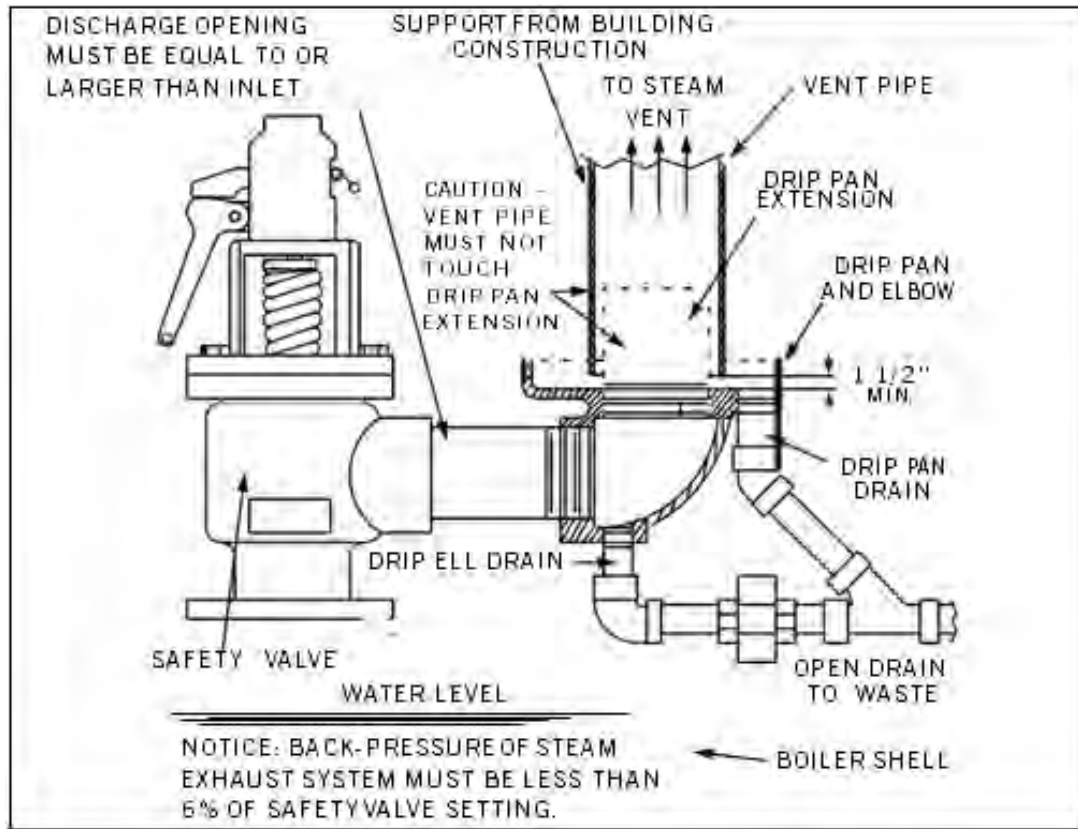

FIGURE 1-13. Recommended Steam Relief Valve Piping (not provided by Cleaver-Brooks)
10. Safety Valve(s) (**Figure 1-7**): Prevent buildup over the design pressure of the pressure vessel. The size, rating and number of valves on a boiler is determined by the ASME Boiler Code. The safety valves and the discharge piping are to be installed to conform to the ASME code requirements. The installation of a valve is of primary importance to its service life. A valve must be mounted in a vertical position so that discharge piping and code-required drains can be properly piped to prevent buildup of back pressure and accumulation of foreign material around the valve seat area. Apply only a moderate amount of pipe compound to male threads and avoid over-tightening, which can distort the seats. Use only flat-jawed wrenches on the flats provided. When installing a flange-connected valve, use a new gasket and draw the mounting bolts down evenly. Do not install or remove side outlet valves by using a pipe or wrench in the outlet. See **Figure 1-13** for recommended safety valve discharge piping.